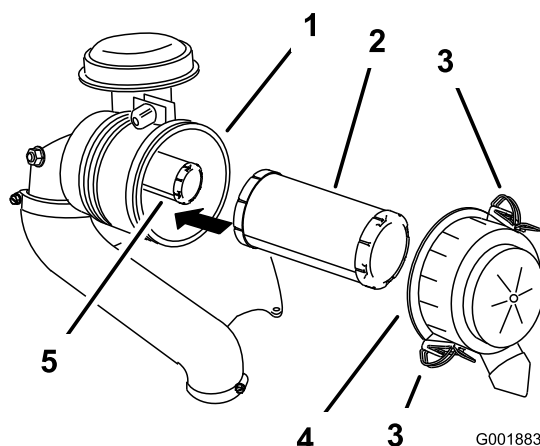

Figure 49
3. Release the latches on the air cleaner and pull the air-cleaner cover off the air-cleaner body (Figure 49).
5. Gently slide the primary filter out of the air-cleaner body (Figure 49).
2. If you are replacing the inner filter, carefully slide it into the filter body (Figure 49).
3. Carefully slide the primary filter over the safety filter (Figure 49).
4. Install the air-cleaner cover and secure the latches (Figure 49).